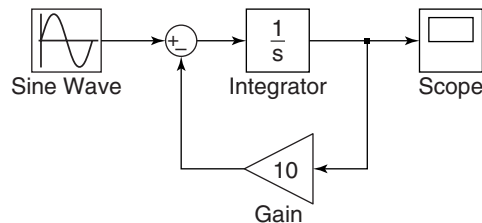

Figure 10.2-6 Simulink model for  $\dot{y} = -10y + f(t)$ .
1. You can use the model shown in Figure 10.2-2 by rearranging the blocks as shown in Figure 10.2-6. You will need to add a Sum block.